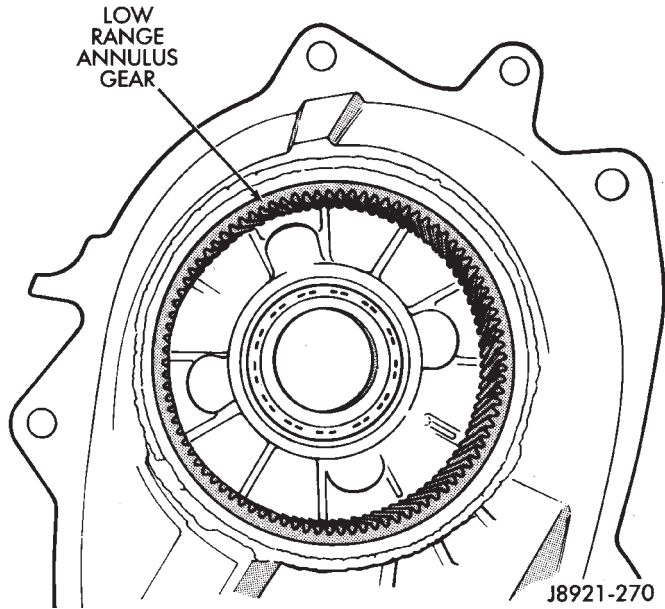

Fig. 43 Inspecting Low Range Annulus Gear
- (7) Inspect low range annulus gear (Fig. 43). **Gear is not a serviceable component. If damaged, replace gear and front case as assembly.**
- (8) Remove oil seals from following components: